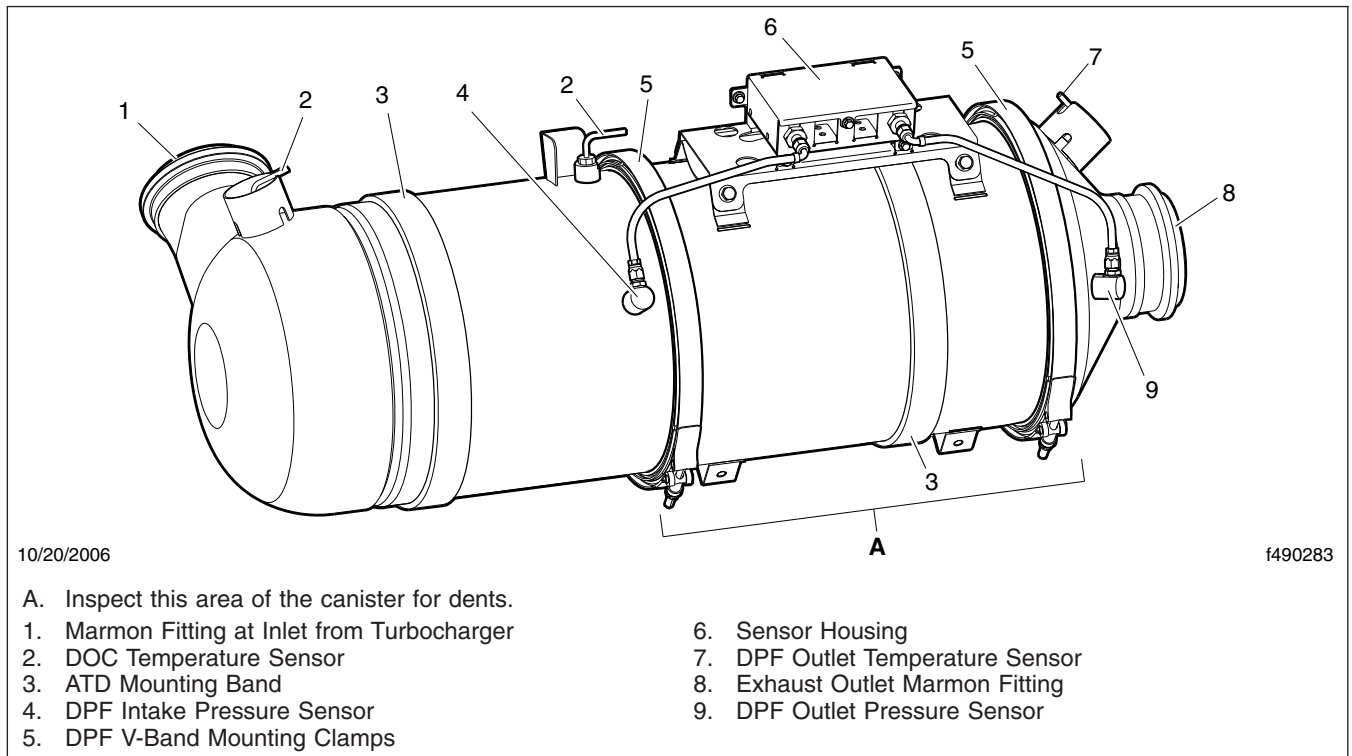

Fig. 4, Typical After-Treatment Device
IMPORTANT: The Environmental Protection Agency's 2007 regulations require lower exhaust emissions, thus requiring new exhaust system components. See **Fig. 4**. In particular the after-treatment device (ATD), which is part of the after-treatment system (ATS), requires special attention during regularly scheduled maintenance inspections. If any discrepancies are discovered, refer to the engine manufacturer's service literature for repair instructions.
8. Check the DPF exterior surface for dents or other damage. See Item A of **Fig. 4**. A dent over 3 inches (76 mm) in diameter and 1/4-inch (6-